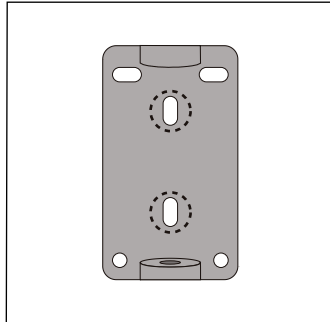

Figure 1
1. Mark mounting holes on wall using dispenser mounting bracket as a template. (See Figure 1)